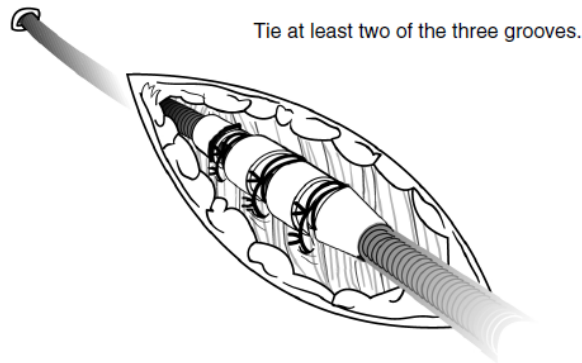

Figure 19
A PSA is used to determine the sensing & pacing threshold, Lead impedance. Pacing threshold of less than 1.0 V is recommended and recommended values for the lead impedance is between 400 ohms to 800 ohms. The lowest possible pacing threshold should be sought to assure optimal long term lead & pacemaker operation. If the procedure is being performed under local anesthesia, remove the stylet from the lead and ask the patient to cough and several deep breaths. After this, reconfirm pacing, sensing threshold & lead impedance. A small deviation in threshold & lead impedance values indicates that the lead is well anchored. The lead may now be secured with suture sleeve & connected to the pacemaker (Refer Figure 19).
- a. Peel back the introducer sheath and slide the suture sleeve deep into the tissue (*figure 19*).